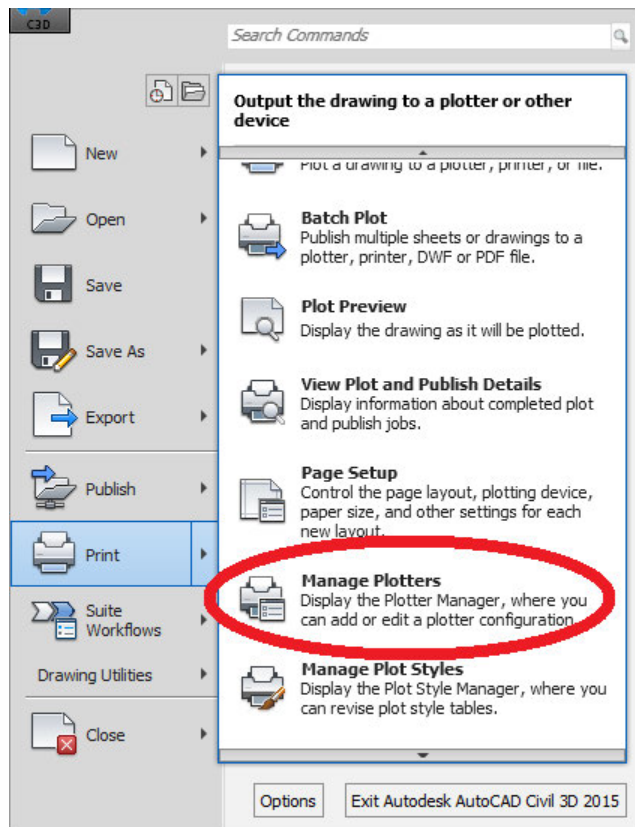
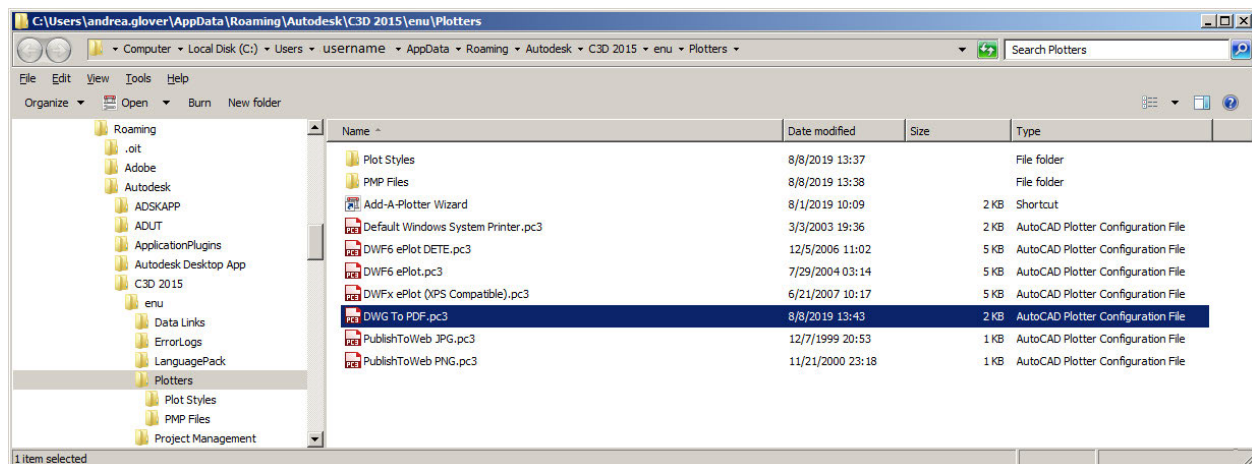

Figure 37-AutoCAD Print Menu
Figure 38-AutoCAD Plotters Available
5.8.A. To change specific settings associated with a plotter or even the AutoCAD pdf printer, click on Print in the main AutoCAD menu (Figure 37). When the submenu opens, click on Manage Plotters. This opens a Windows Explorer window showing all installed AutoCAD plotters. An example is shown in Figure 38. Double click any of the listed plotters to adjust their configuration.
5.8.B. A copy of DWG To PDF.pc3, which has already been configured per Subsection 5.8.C., is included in the IBWC base files. This file can simply be copied to the directory shown in Figure 38 to overwrite your existing file.
2. Method One - Double click on file "DWG to PDF.pc3" listed in the Windows Explorer window shown in Figure 38.